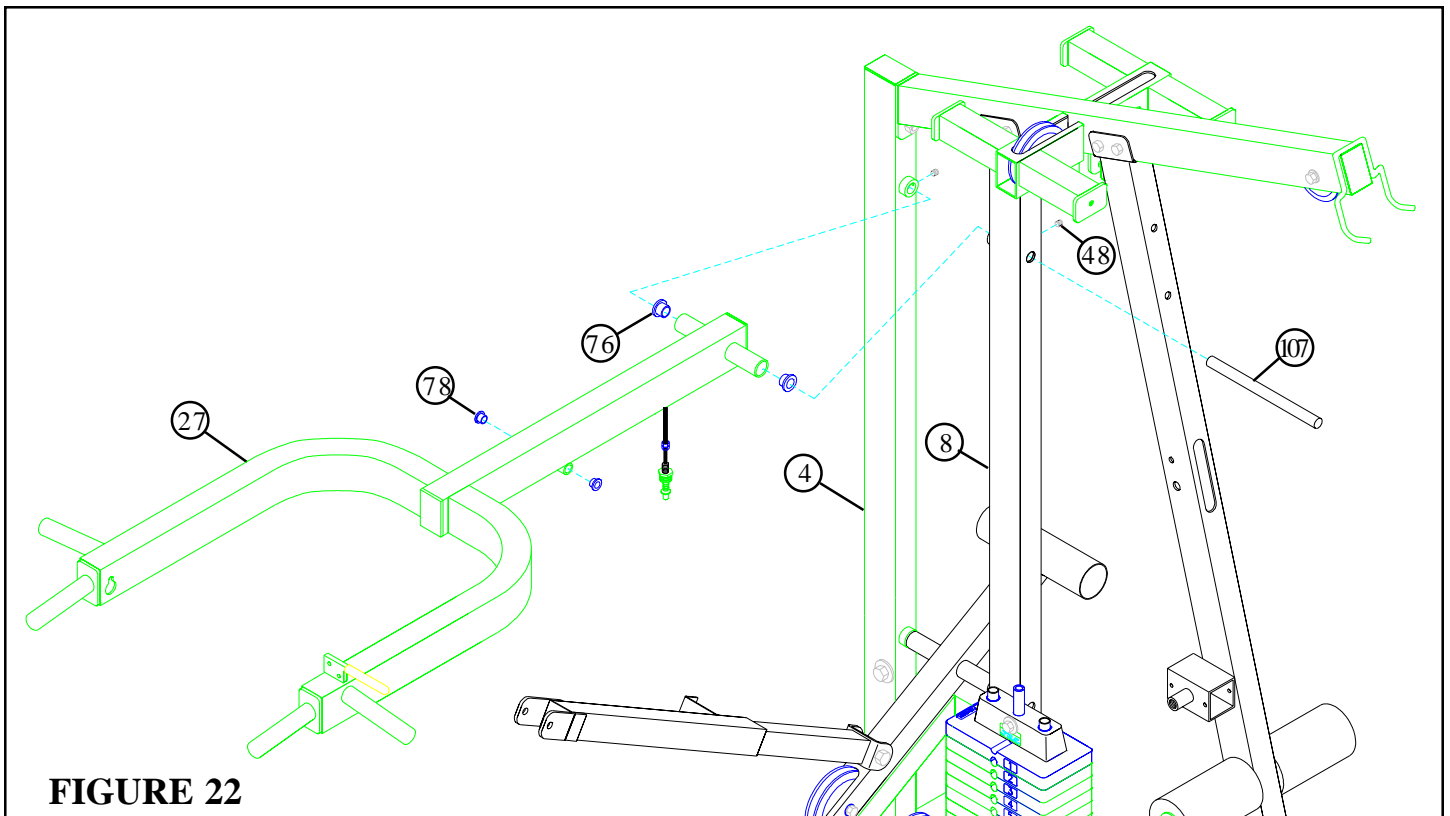

FIGURE 22
- Insert two 3/4" FLANGE BEARINGS (76) into the PRESS ARM (27) as shown in FIGURE 22.
- Hold the PRESS ARM (27) between the REAR (4) and MIDDLE UPRIGHTS (8) and slide the 3/4 DIA X 11" SHAFT (107) through the MIDDLE UPRIGHT (8), PRESS ARM (27), and through the collar on the REAR UPRIGHT (4). To **SECURE** the SHAFT (107) in place, insert two 5/16" SET SCREWS (48) into the collars on the UPRIGHTS and tighten. See FIGURE 22.
- Insert two 1/2" FLANGE BEARINGS (78) into the PRESS ARM (27) as shown in FIGURE 22.